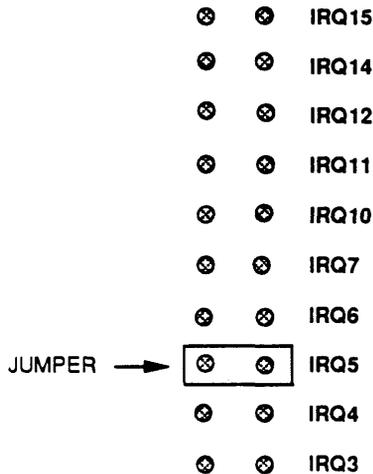

Figure B-3. Interrupt Request Level
Note: The Interrupt Request Level jumper uses the default (3) when it is packaged. This jumper must be changed to 5 as shown in Figure B-3 in order for the system to work properly.